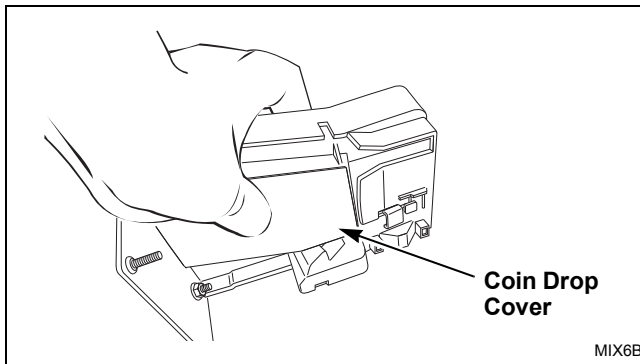

Figure 5
- (2) Manually hold down coin drop cover and insert coin. Refer to *Figure 5*.